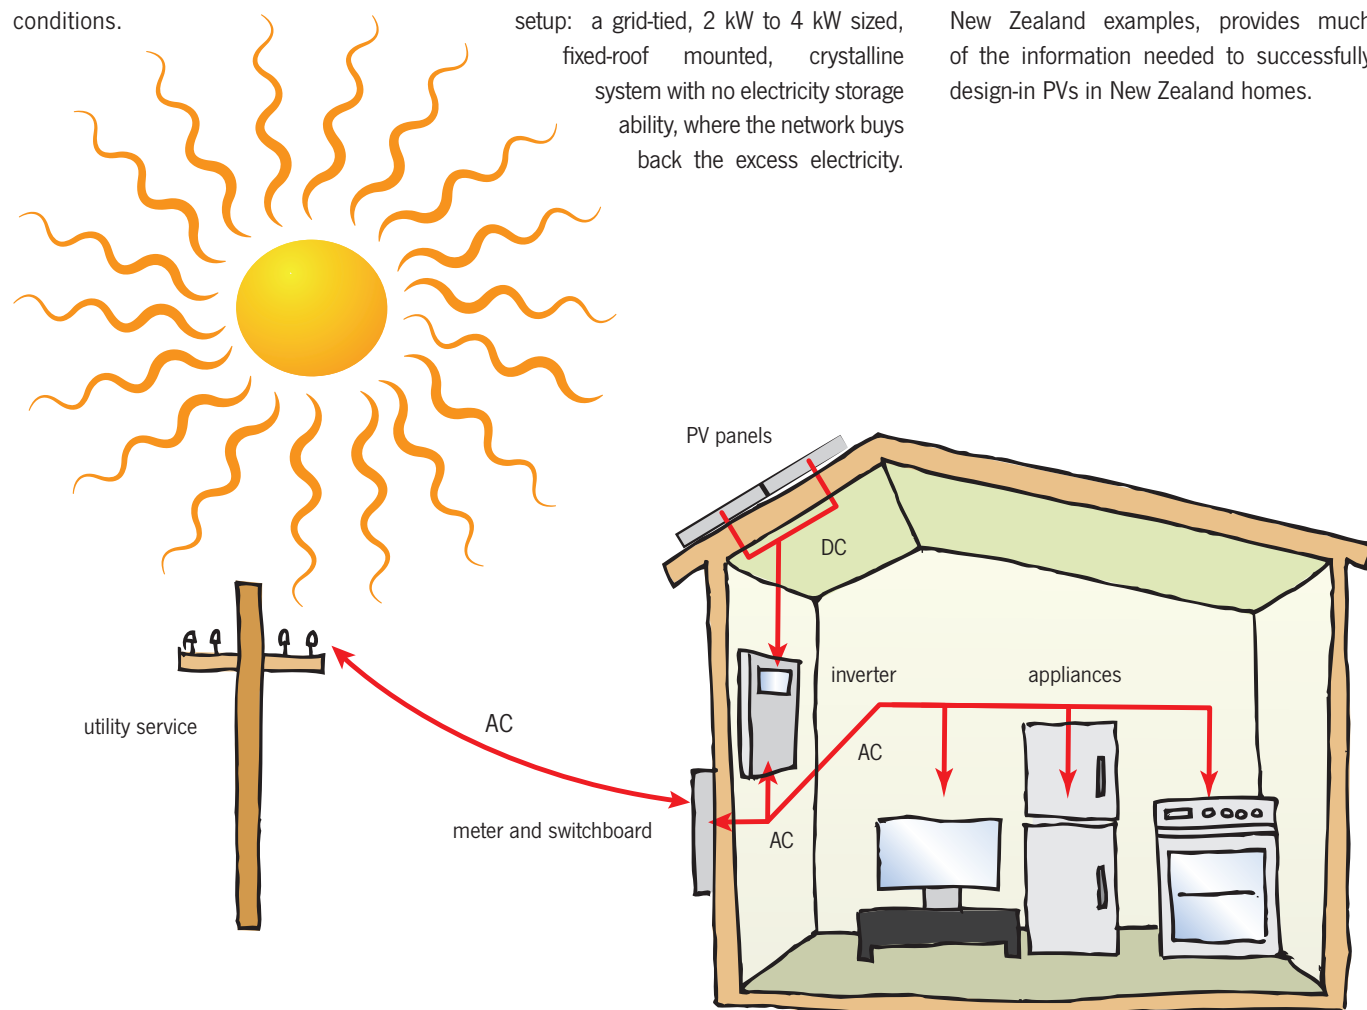

Figure 1: Schematic of typical grid-tied system, showing key components and energy flows (in red lines)
A photovoltaic array is made up of light-sensitive panels that contain solar cells (see Figure 1). The cells consist of layers of a semi-conductor material – typically silicon. Sunlight striking the cells causes electrons to move between the semi-conductor layers, generating direct current (DC) electricity. This DC electricity needs to be transformed into alternating current (AC) electricity for ordinary household needs. This transformation process is carried out by an inverter. From the inverter, electricity is fed into the household switchboard, where it is distributed directly to the outlets/appliances that need it immediately.